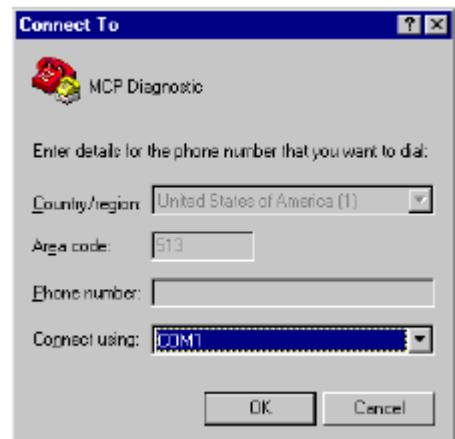

Figure 5-2. “Connection To” Screen
4. Click the “OK” button. The “Connect To” screen displays (Figure 5-2).